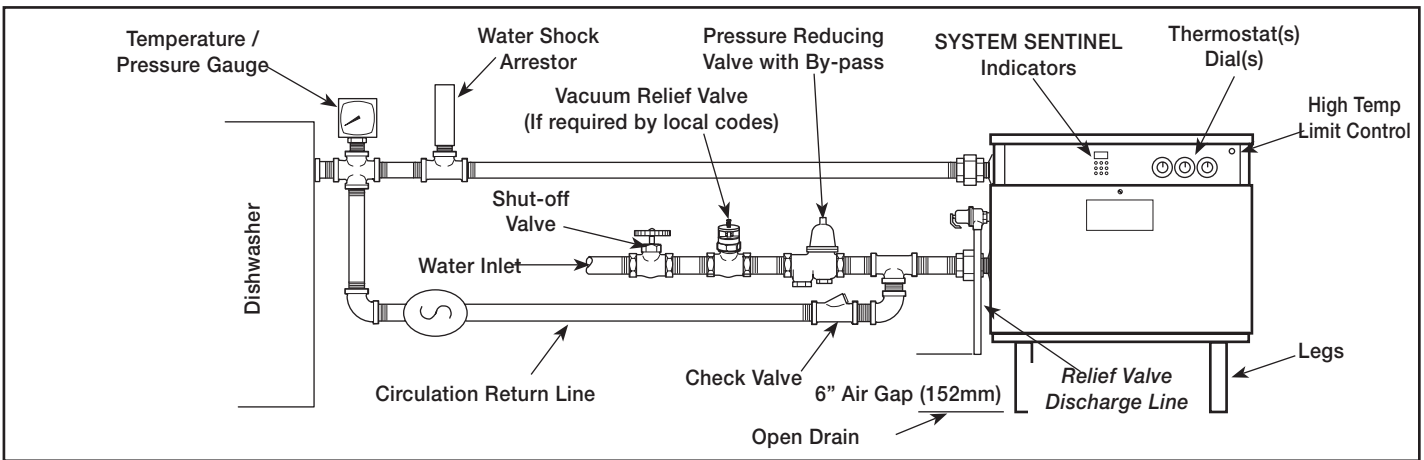

Figure 1. — Recommended installation for dishwashing sanitizing rinse application
1. **INSPECT SHIPMENT**—for possible damage. The manufacturer's responsibility ceases upon delivery of goods to the carrier in good condition. Any claims for damage, shortage in shipments, or nondelivery must be filed immediately against carrier by consignee. Refer to Fig. 1 for installation with commercial dishwasher to provide hot water for sanitizing rinse. Note: Adjust the pressure reducing valve to the dishwasher manufacturer's recommended pressure (usually between 15 and 25 psi) (103-172kPa), with water flowing to the dishwasher.